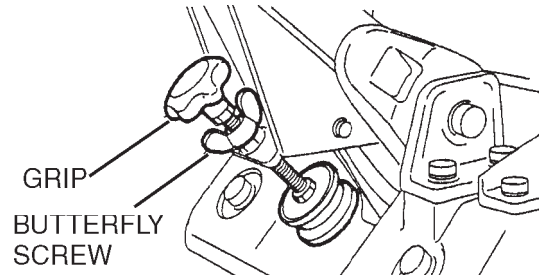

**Figure 12. Handle Release Pin**
1. Pull the handle release pin, (Figure 12) then push down on the hand grip to release the handle.